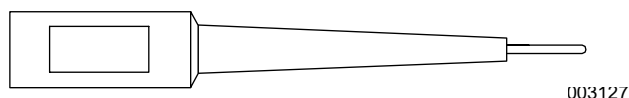

Figure 2-13. Narrow Test Probe
- **MINIMUM:** Meter test leads capable of measuring voltage inside a connector without damaging the socket. A set of black and red test leads (P/N 0J09460SRV) for this application are available. See Figure 2-13.